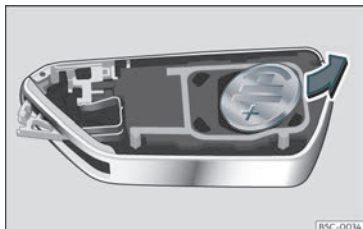

Fig. 77 Vehicle key: removing the battery.
- Extract the battery from the compartment using a suitable thin object >>> **Fig. 77**.
- Insert the new battery and press it into the battery compartment >>> ①.